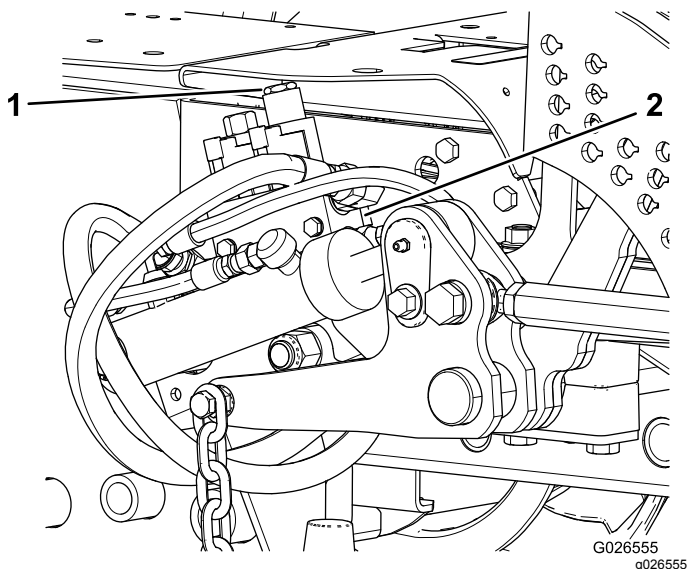

Figure 8
- A. Remove the nut securing the spacer/coil assembly to the solenoid valve in port "A" on the lift-valve manifold (Figure 8).